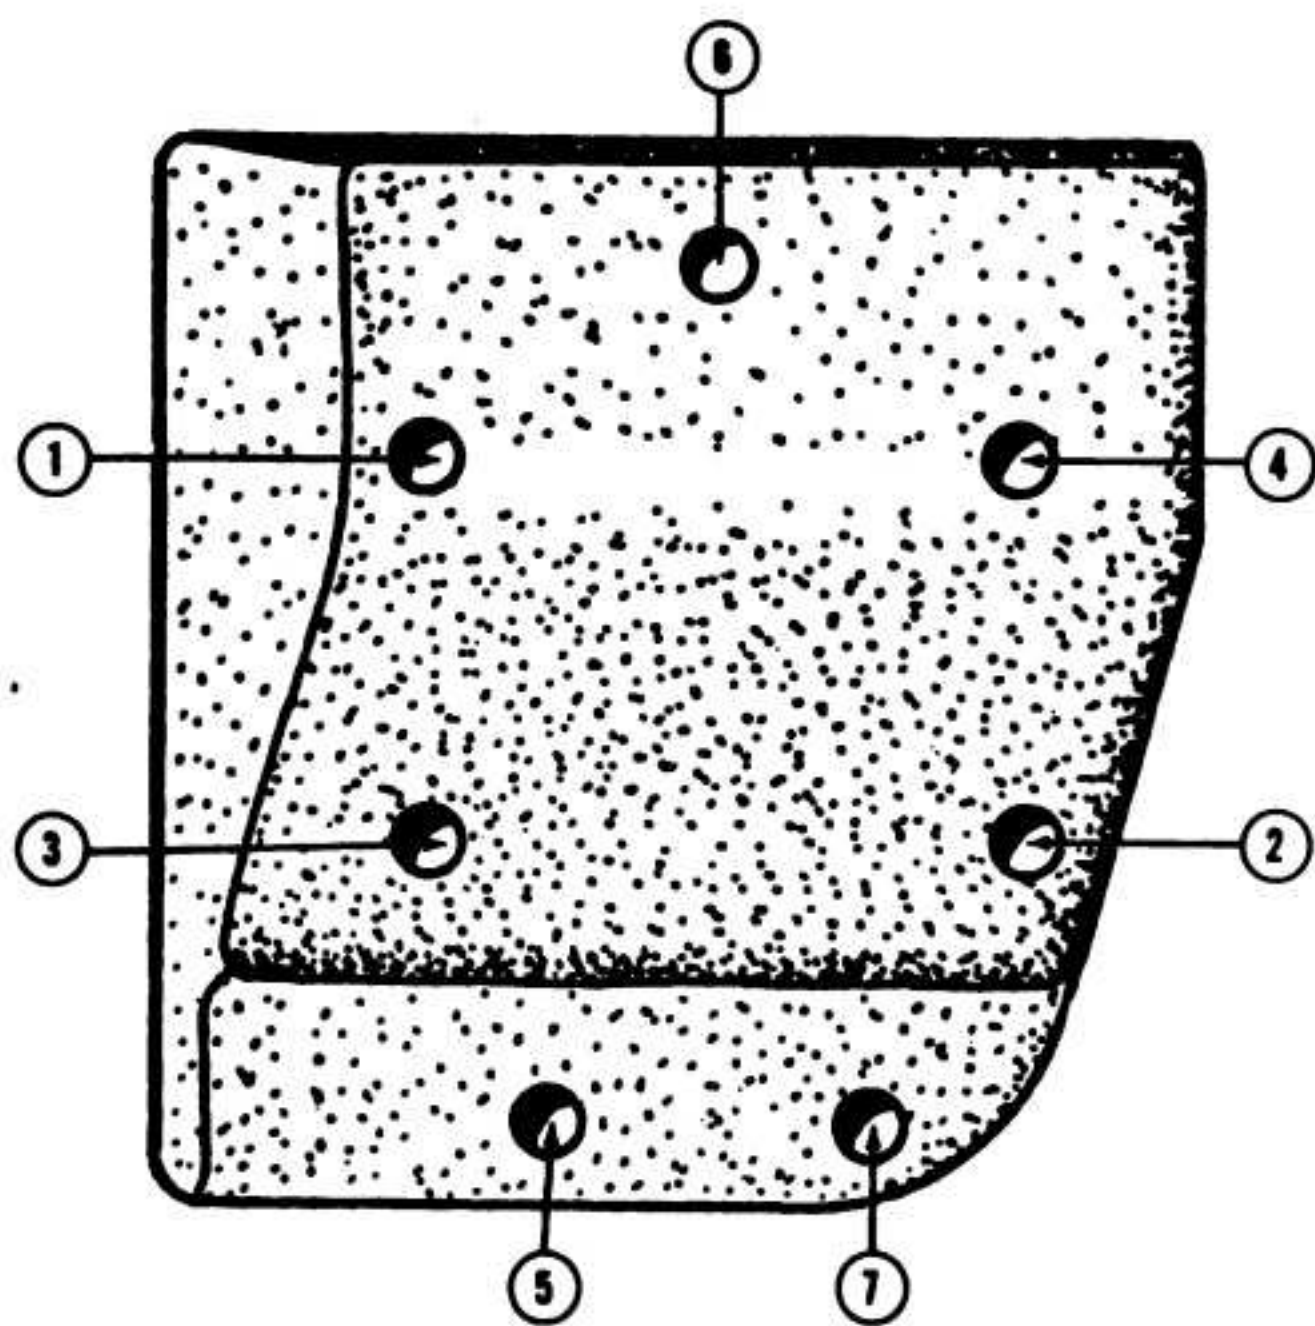

Figure 18—Cylinder Head Tightening Chart
- (1) Position a new gasket on the cylinder block. NOTE: If a new gasket is not available, clean the old one and coat both sides with grease; do not use shellac.
- (2) Position the cylinder head and fuel tank mounting bracket; install the cylinder head capscrews, using spacers under the five that pass through the heavy portion of the head. Tighten capscrews a little at a time, in rotation as shown in figure 18, until secure; do not exert more than 200 inch pounds of pressure.
- (3) Install the spark plug and spark plug shield. (See paragraph 30.)